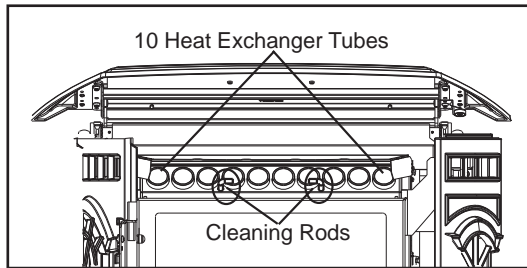

Figure 34.1
- Locate the 2 exposed rods directly underneath the heat exchanger tubes. **Figure 34.1.**